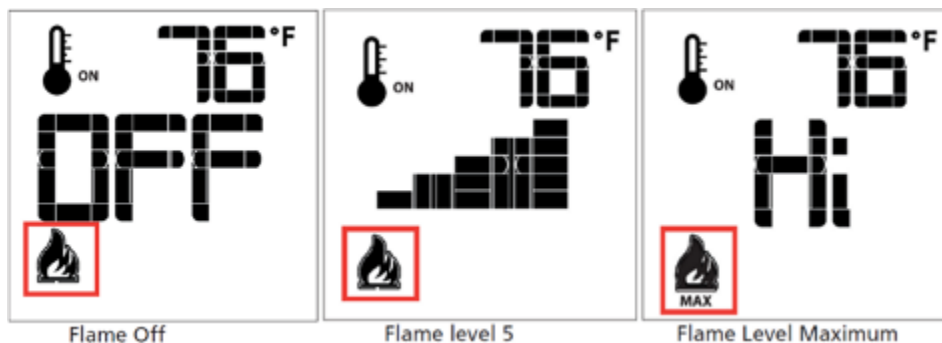

FIGURE 12
The system has six (6) flame levels. See (**Figure 12**) for an example. With the system on, and the flame level at the maximum in the appliance, pressing the Down Arrow Key once will reduce the flame height by one step until the flame is turned off. The Up-Arrow Key will increase the flame height each time it is pressed. If the Up Arrow Key is pressed while the system is on, but the flame is off, the flame will come on in the high position (**Figure 12**). A single "beep" will confirm reception of the command.